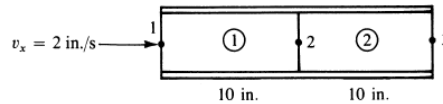

Figure 6
- i) For the smooth pipe shown discretized in Figure 6 with uniform cross section of 1 in^2 , determine the flow velocities at the center and right end, knowing the velocity at the left end is $v_x = 2 \text{ in./s}$.